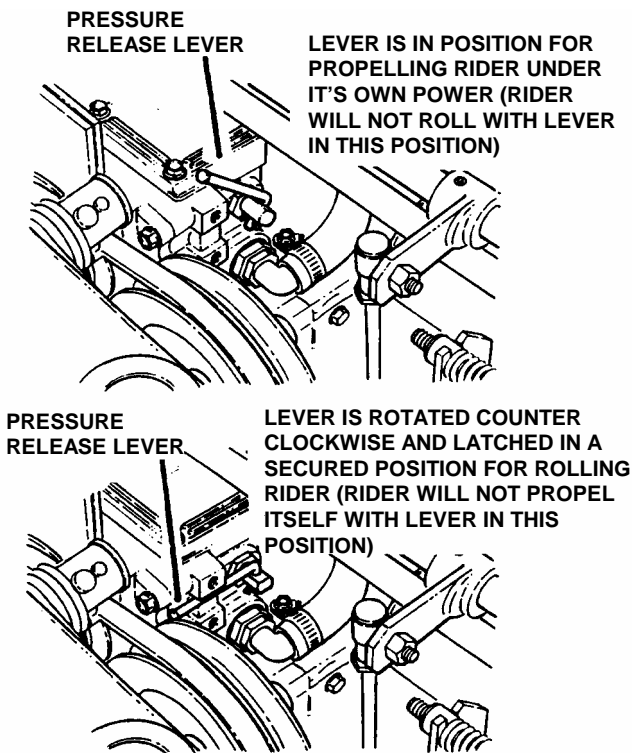

FIGURE 2.4
**ROLL RELEASE:** To roll the machine without the engine running, pressure within the hydraulic pumps must be released. There is one lever on the upper right side of each pump that is used to release the pressure. Rotate lever counter clockwise and secure in that position. See Figure 2.4.